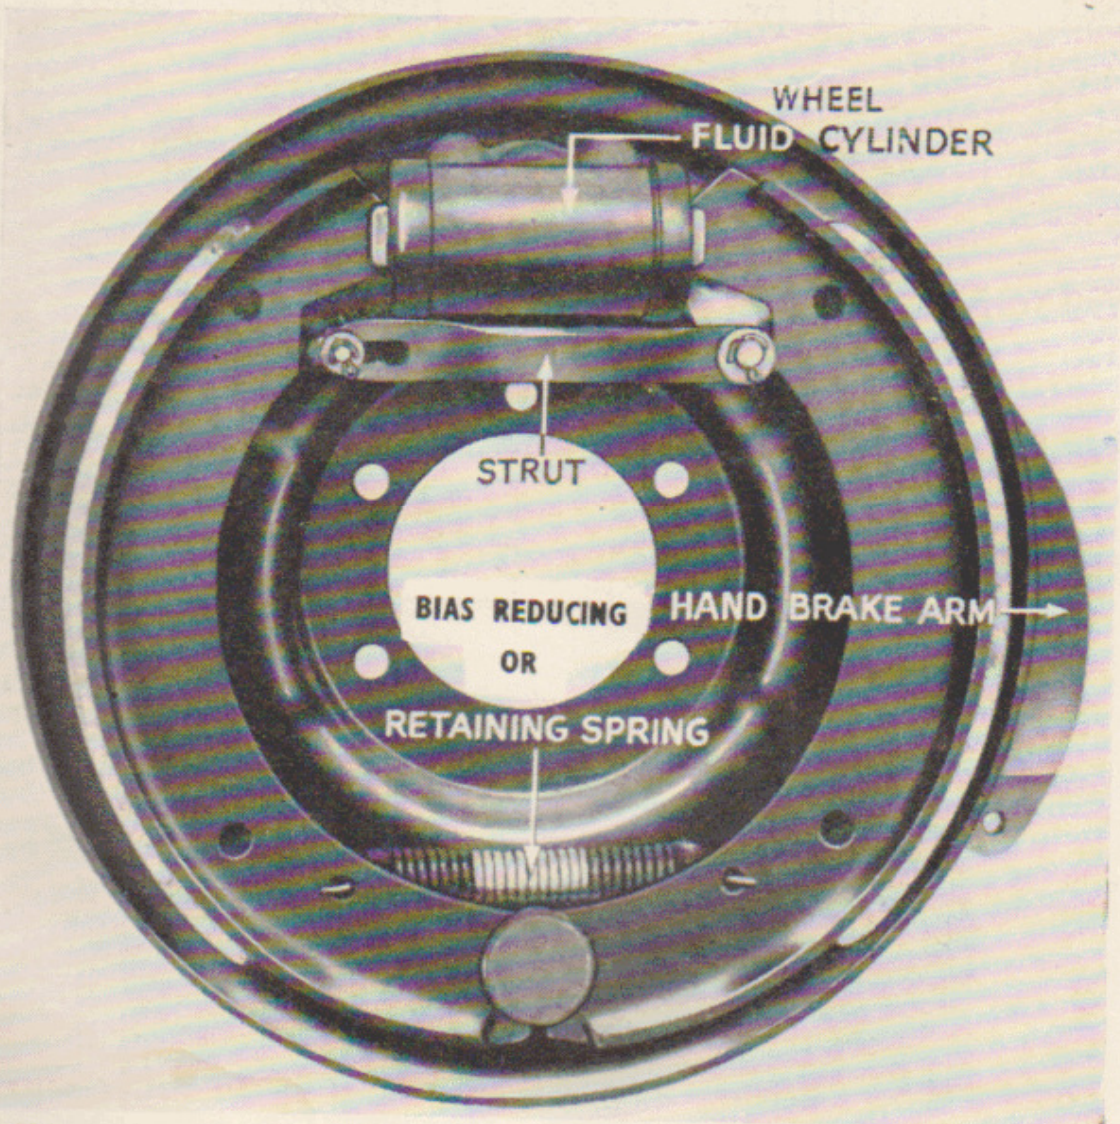

Fig. 43.
5. Hook the bias-reducing spring into the holes of the new **FACTORY LINED REPLACEMENT SHOES**, nearest to the pivot as shown in Fig. 43.
6. Expand the spring and fit the shoes to the back-plate. The shoes are interchangeable and when fitted to the back-plate ensure that the retaining spring lies on the "inside," between the shoes and the back-plate, see Fig. 43.